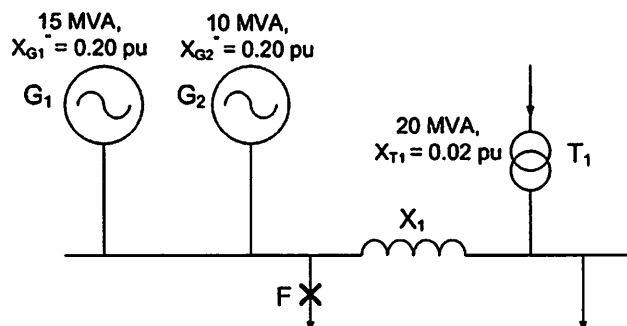

Fig 4.2: source end of a power system comprising of two generators (G_1 and G_2), one transformer (T_1) and a current limiting reactor (X_1)
- c) The source end of a power system comprising of two 11 kV generators (G_1 and G_2), one 33/11 kV transformer (T_1) and a current limiting reactor (X_1) is shown in Fig. 4.2. The MVA rating and reactance (in per unit of the respective rating) of each component is shown on the figure. Find the absolute value of the reactance of X_1 in ohms such that the short circuit level for a three-phase fault on the outgoing line at point F does not exceed 300 MVA. Neglect pre-fault current and assume 1.0 pu pre-fault voltage everywhere in the system. Choose 15 MVA as the common system base.